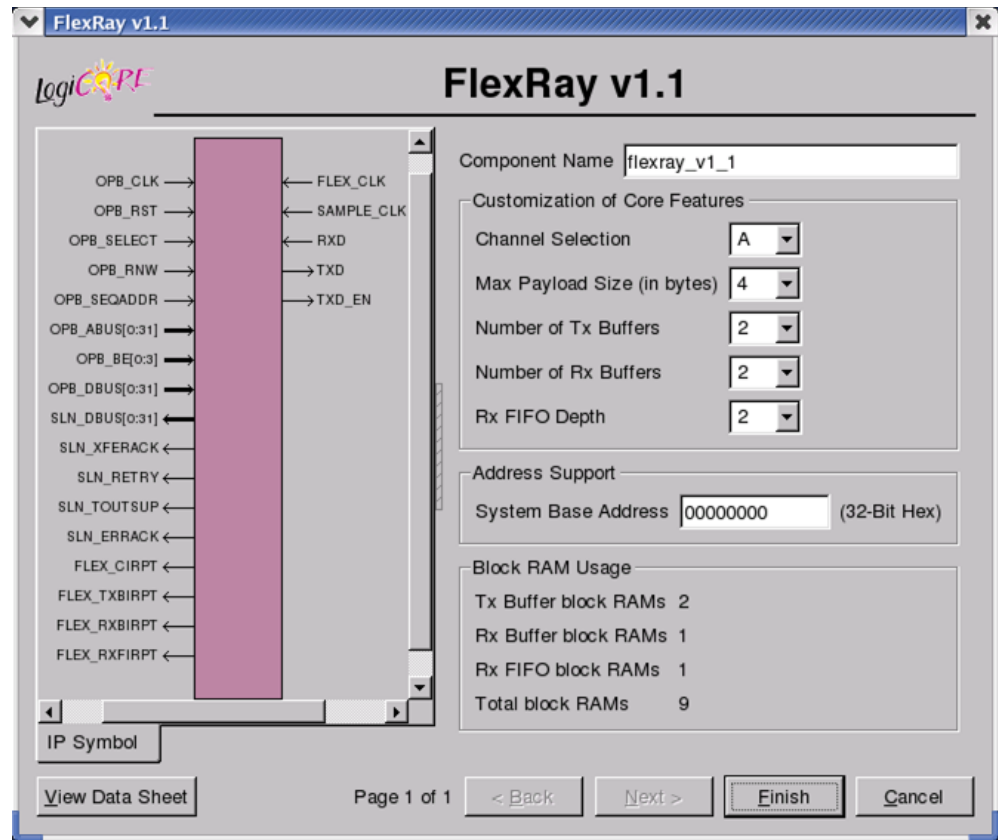

Figure 3-1: FlexRay Main Screen
6. Double-click the core name to display the main FlexRay screen (Figure 3-1).